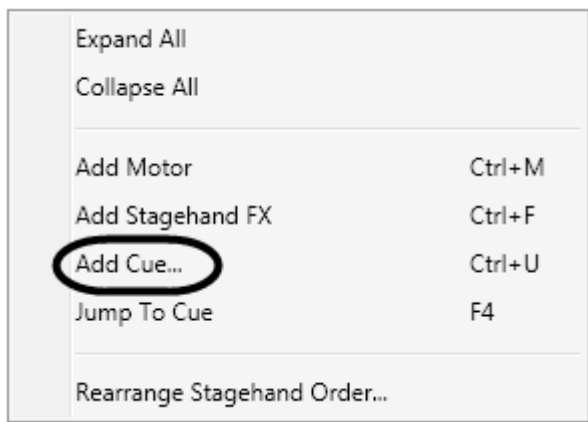

Figure 122
1. Right-click on a blank area in the **Cue Grid** and select **Add Cue** (Figure 122).